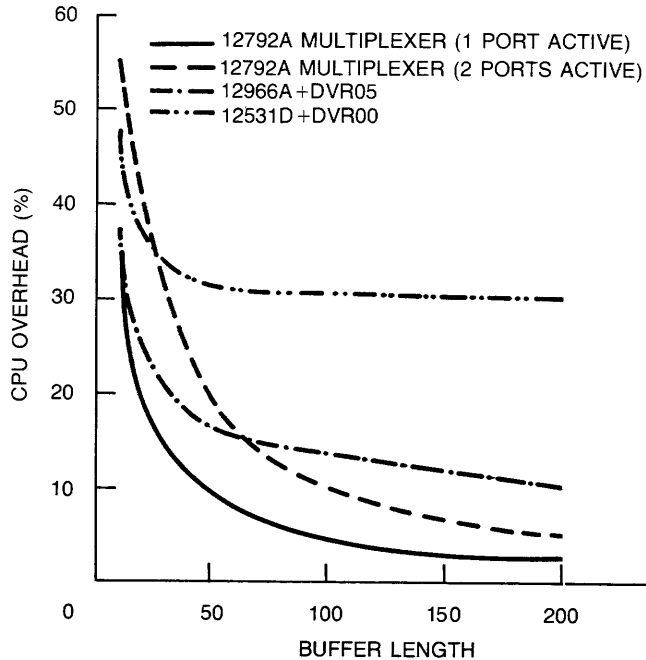

Figure 1. 12792A Computer overhead compared with HP 1000 M/E/F-Series point-to-point interfaces, 9600 baud transfers
**Installation:** To install, set the 12790A configuration switches for Baud rate, synchronous or asynchronous operation, and modem control; plug the interface into the computer I/O backplane; connect the standard hardwire interface cable to the first terminal or the option 001 cable to a customer-furnished synchronous or asynchronous modem; integrate the interface and 91730A software into the RTE-MIII, or RTE-IV/IVB operating system, and complete remaining connections to terminals. (See Figure 1.) (NOTE: The 12790A and 91730A ordered with an HP 1000 Model 41 or 46 Computer System will be included in the primary system. When both the 12790A and 91730A are ordered on an HP 1000 Model 20 or 25 Computer System with sufficient memory to support the RTE-MIII configuration they will be custom-generated into the system.)
CPU overhead per active multiplexer channel (% of total cpu time): See Figure 1.